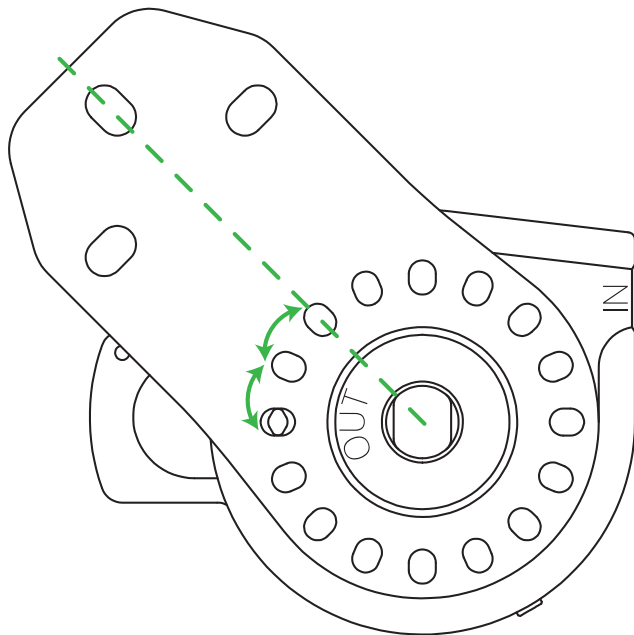

Figure 1 - Preparing the Can Bracket
3. Position the flat bracket onto the catch can as shown in Figure 1.